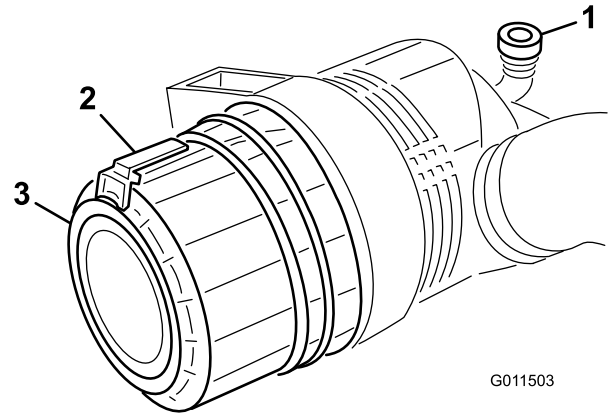

Figure 47
1. Pull the latch outward and rotate the air cleaner cover counterclockwise (Figure 47).
7. Install the cover orienting the rubber outlet valve (Figure 47) in a downward position - between approximately 5:00 to 7:00 when viewed from the end. Secure the latch.